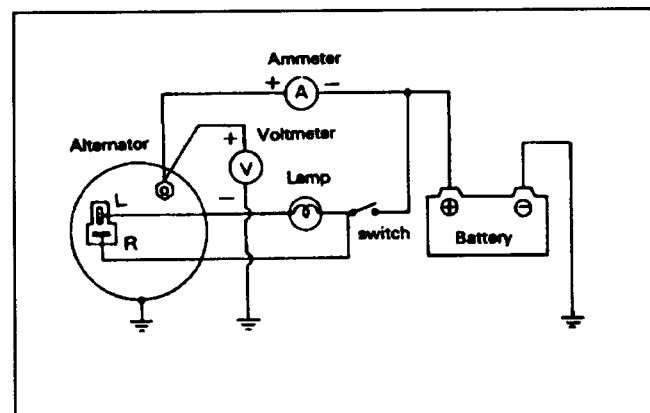

Figure 35
2. Install an ammeter between the positive (+) terminal of the battery and terminal "B" of the alternator (Fig. 35).